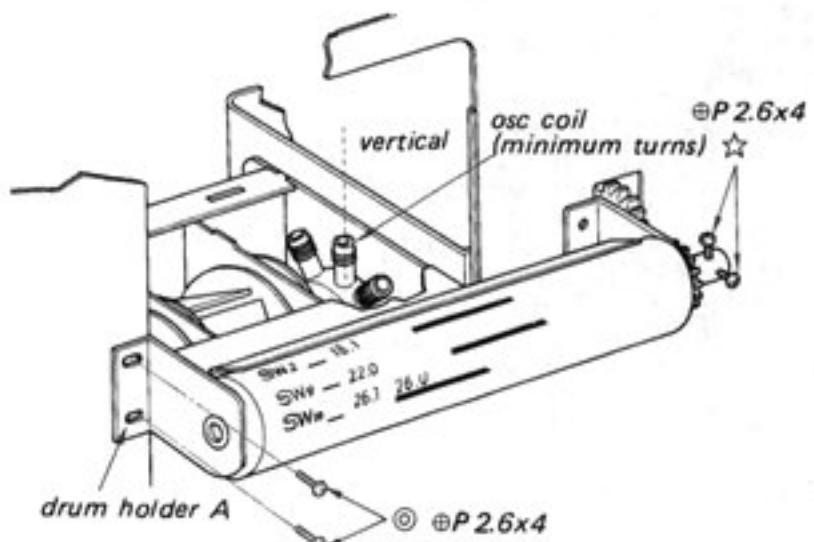

Fig. 2-16
5. Remove the drum holder A by removing the two screws marked ④ in Fig. 2-16.
6. Release the two screws marked * in Fig. 2-16.
1. Turn the sw band selector so that the osc coil which has the minimum turns comes to the vertical position as shown in Fig. 2-16.
2. Attach the dial drum to the drum holders setting the two screws marked ④ in Fig. 2-16.
5. Fasten the two screws marked * in Fig. 2-16.